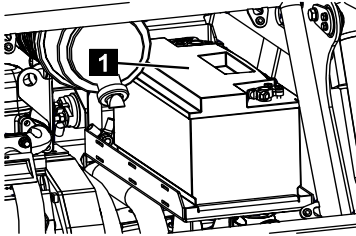

Fig. 224
4. Connect the red lead to the discharged battery's positive terminal (Fig.224/1).